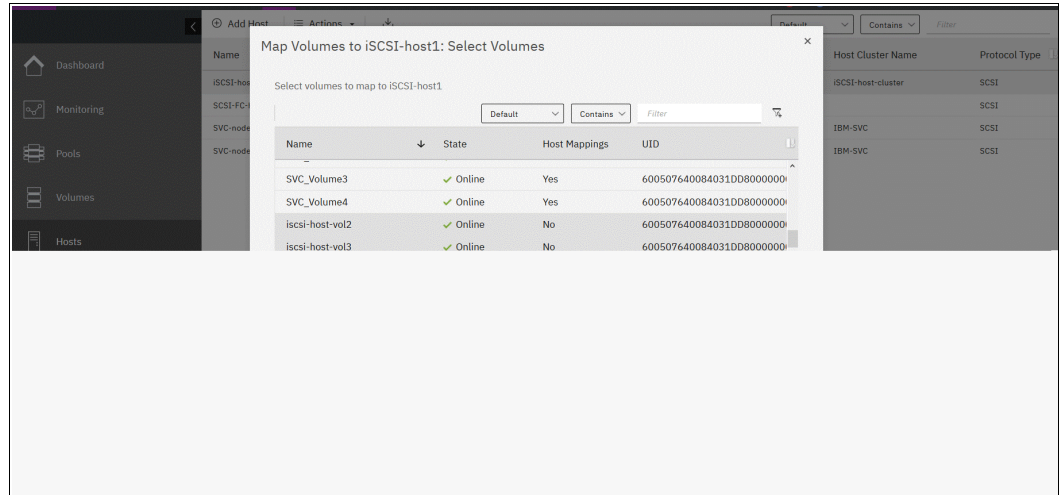

Figure 7-39 Adding private mappings
4. If you intend to add a private mapping, click **Add Volume Mappings**. A list of volumes appears, as shown in Figure 7-39. If a volume already has a private mapping to this host, or it has a shared mapping with a host cluster that includes this host, it is not listed.